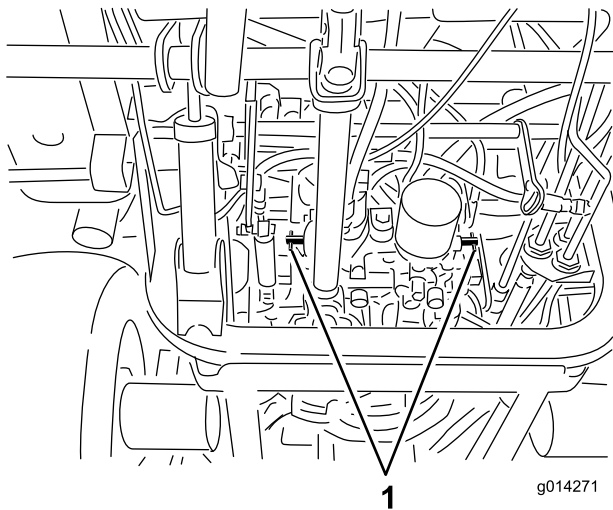

Figure 27
4. Rotate each by-pass valve counterclockwise 1 turn (Figure 27).
Rotate each by-pass valve clockwise 1 turn and hand tighten them (torque of approximately 71 in-lb (8 N-m)) (Figure 27).